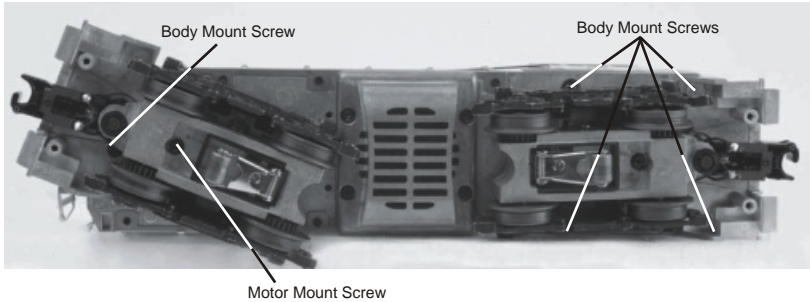

Figure 4: Mounting Screws
1. Remove the Body Mounting Screws from the chassis, as seen in Figure 4, then lift the body away from the chassis.
2. Remove the truck blocks from the chassis by unscrewing the large Phillips motor mount screw on the bottom of each truck block, as shown in Figure 4.